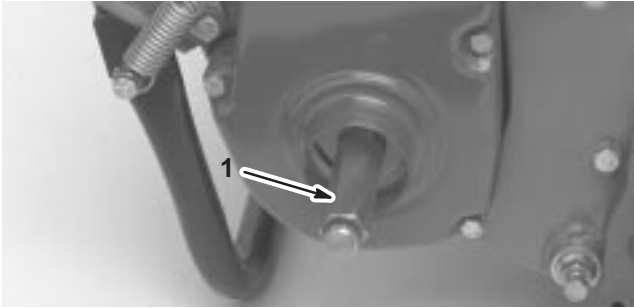

Figure 4
3. Thread the right hand wheel shaft into the drive pulley on the right side of the machine (Fig. 4).